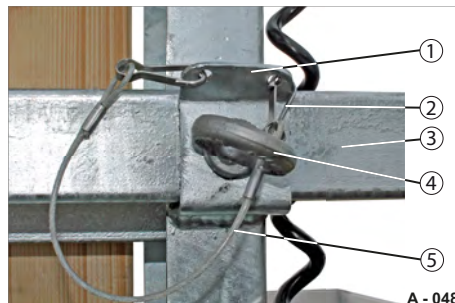

Fig. 70 Eye bolt secured
- Release the karabiner (Fig. 70/2) from the holder (Fig. 70/1).